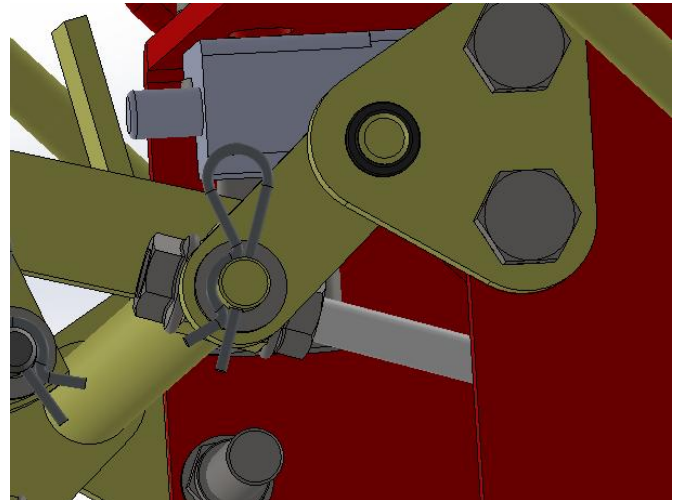

Figure 12
3. If the machine pulls to the right side, stop the mower by placing the tracking control levers in the neutral position. Turn the adjustment knob nut counter-clockwise until the machine tracks straight. If the machine pulls to the left side, turn the tracking adjustment knob nut clockwise until the machine tracks straight. (See figure 12).